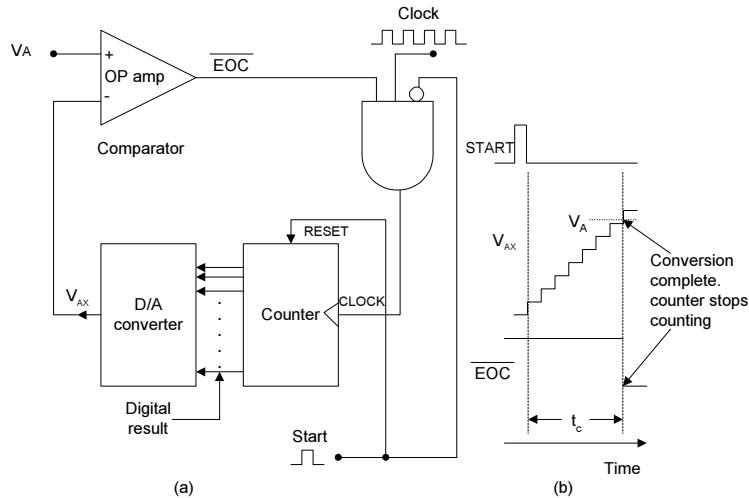

Fig. 7.7 : Digital-ramp ADC.
One of the simplest versions of the general ADC of Fig. 7.7 uses a binary counter as the register and allows the clock to increment the counter one step at a time until $V_{AX} \geq V_A$. It is called a digital-ramp ADC because the wave form at V_{AX} is a step-by-step ramp (actually a staircase) like the one shown in Fig. 7.7. It is also referred to as a counter-type ADC. Fig. 7.7 is the diagram for a digital-ramp ADC. It contains a counter, a DAC, an analog comparator, and a control AND gate. The comparator output serves as the active-LOW end-of-conversion signal, \overline{EOC} . If we assume that V_A , the analog voltage to be converted, is positive, the operation proceeds as follows :
5. As the counter advances, the DAC output, V_{AX} , increases one step at a time as shown in Fig. 7.7.